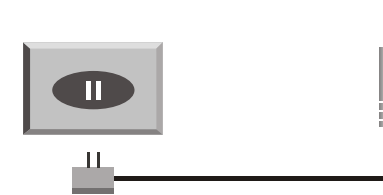

Fig. 3.
2. Connect a power adapter to the DC power supply input socket ⑦ then plug the adapter to an appropriate AC outlet with caution to the correct voltage under both AC outlet and adapter marked. as shown in Fig. 3.